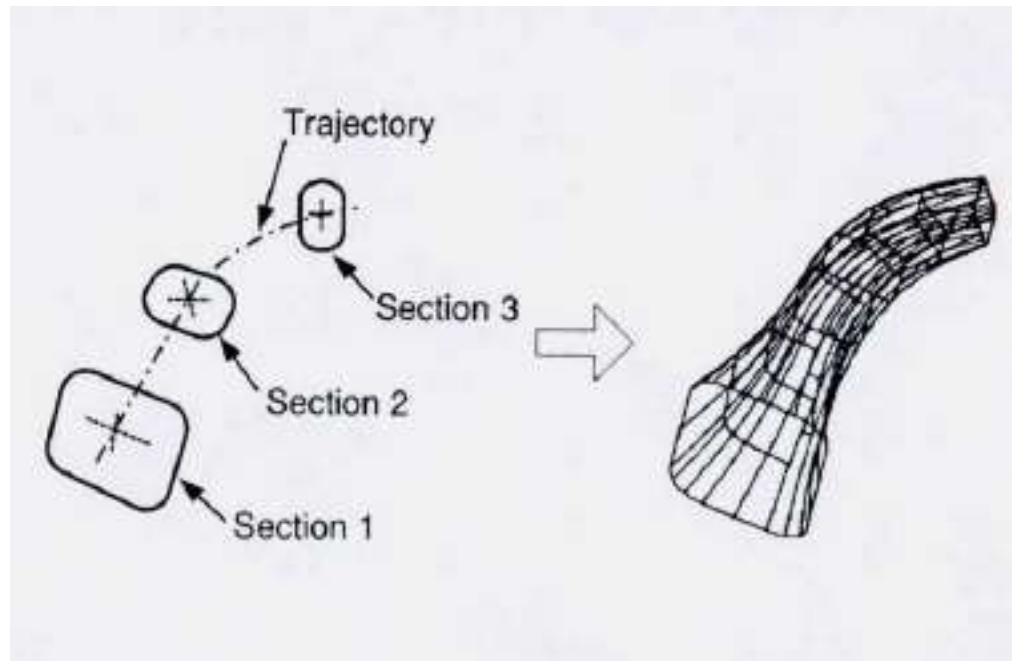

Figure 7: Example of creating a solid by skinning.
- *Skinning* is a modeling function used to form a closed volume or a solid by creating a skin surface over prespecified cross-sectional planar surfaces, as illustrated in Figure 7.